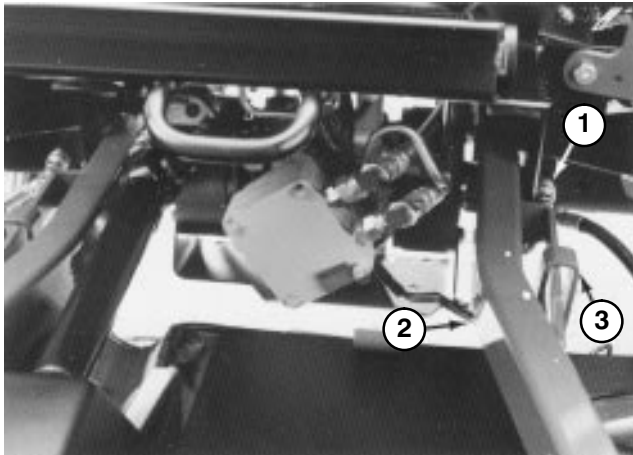

Figure 61
2. Disconnect (3) hydraulic lines (quick couplers) and wire harness at rear of deck (Fig. 61).
3. Remove hairpin cotters and H.O.C. pins securing rear deck straps to H.O.C. brackets on deck (Fig. 61).